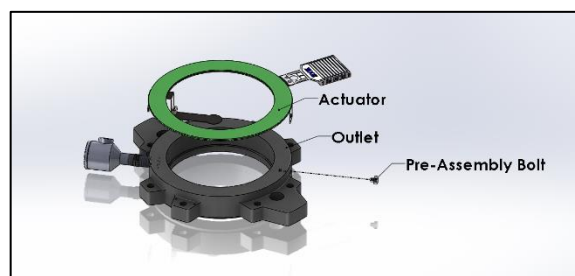

Figure 4 - Z-ALERT Assembly
- e) Place Actuator assembly on the Outlet gasket face with the actuator and magnet components oriented so that they are recessed into the Outlet (the Actuator and magnet should be near the disk). See Figure 4.
- Place Actuator assembly on the Outlet gasket face with the actuator and magnet components oriented so that they are recessed into the Outlet (the Actuator and magnet should be near the disk)(Figure 4).